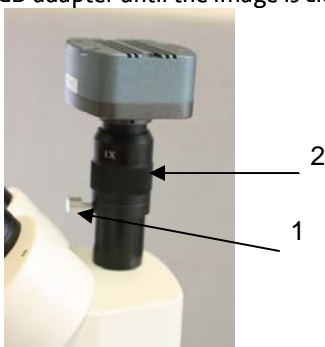

Figure 5
If a trinocular head is used, the camera can be joined with the 1x CCD camera adapter REF 149000/10 and mounted onto the trinocular. Please refer to figure 5 below. Fix the adapter with the screw (1). Observe an image with both eyes and bring into focus. Then adjust the image of the camera using the adjustment ring (2) of the 1x CCD adapter until the image is clear..